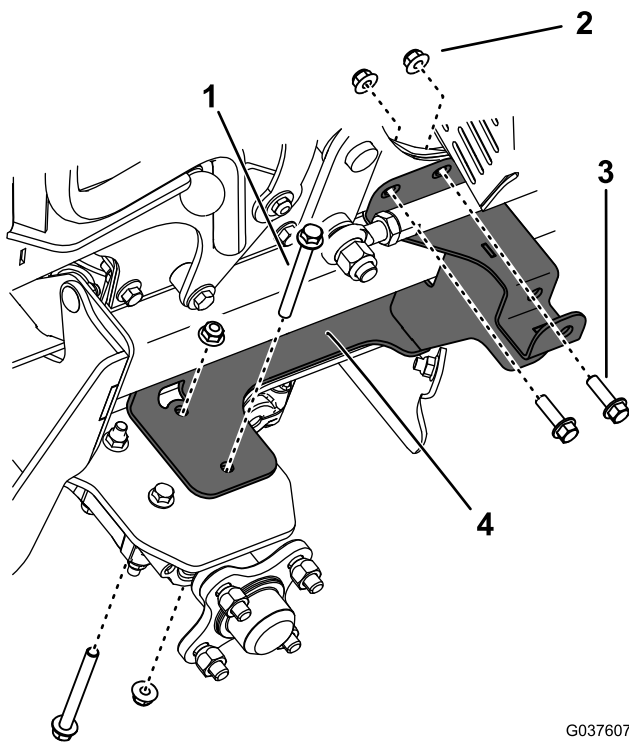

Figure 11
9. Remove the front 2 bolts and 2 nuts from the right mount bracket and the front 2 bolts and 2 nuts from the right tower panel (Figure 11).
10. Use the bolts and nuts you removed in step 9 to secure the right mount bracket and fan shroud to the frame (Figure 11). Torque the bolts to 37 to 45 N·m (27 to 33 ft-lb).